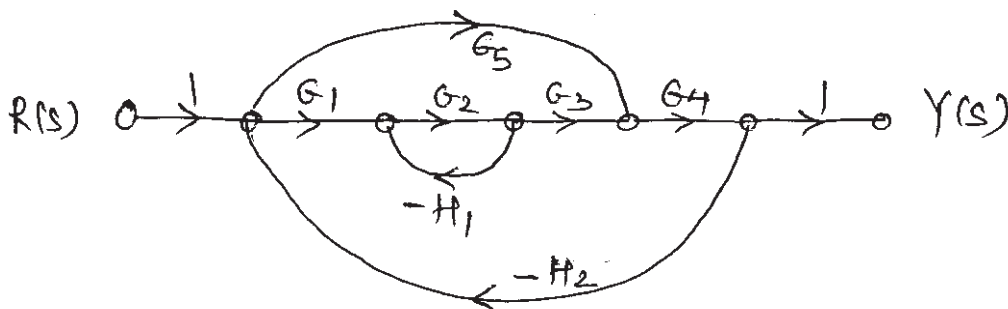

Figure No.1
- b) Determine the transfer function  $Y(s)/R(s)$  using Mason's gain formula for the system shown in Figure No.1. [8]